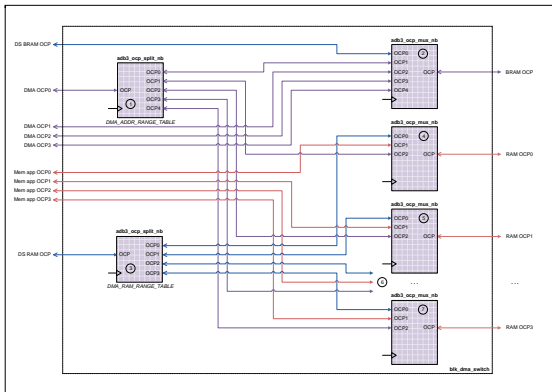

Figure 32 : Uber OCP Switching Block
This block is implemented by `hdl/vhdl/examples/uber/common/blk_dma_switch.vhd` and its purpose is to connect together the various OCP channels in the **Uber** design in a useful way. A block diagram of the OCP switching block is shown in Figure 32.
Referring to item 1 in Figure 32, this instance of `adb3_ocp_split_nb` splits the Direct Slave on-board memory OCP channel into multiple secondary OCP channels, according to the address map in Table 125 below.
Referring to item 2 in Figure 32, this instance of `adb3_ocp_mux_nb` multiplexes all OCP channels which require to be connected to the `BRAM` block:
Referring to item 3 in Figure 32, this instance of `adb3_ocp_split_nb` splits DMA OCP channel 0 into multiple secondary OCP channels according to the address map in Table 126.
Items 4, 5, 6 and 7 in Figure 32 are instances of `adb3_occup_mux_nb` whose purpose is to enable multiple OCP channels to access the the on-board memory banks: